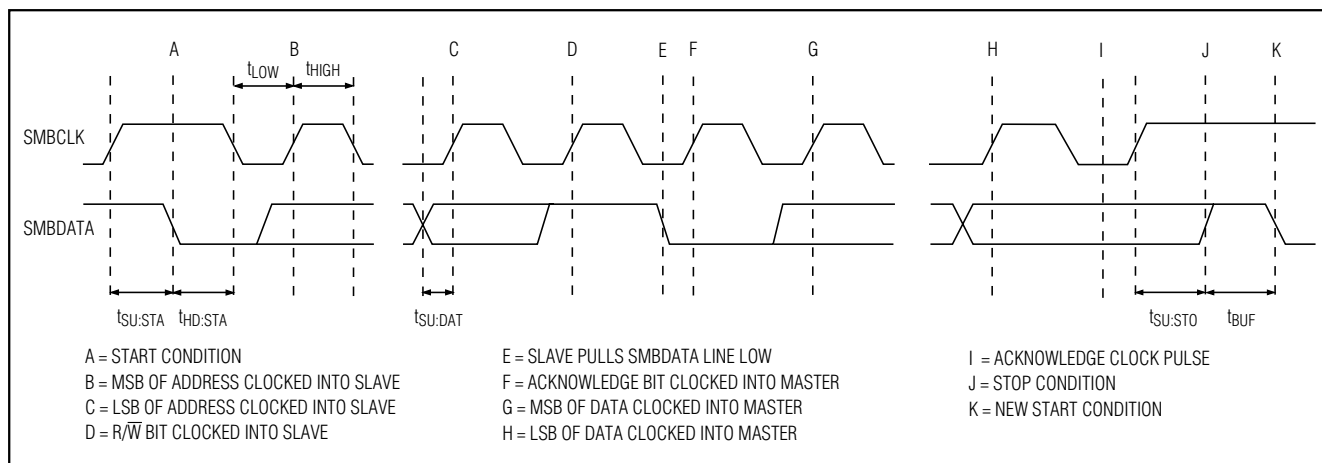

Figure 5. SMBus Read Timing Diagram
- 4) Connect guard traces to GND on either side of the DXP–DXN traces (Figure 5). With guard traces in place, routing near high-voltage traces is no longer an issue.
- 7) Use wide traces. Narrow traces are more inductive and tend to pick up radiated noise. The 10mil widths and spacings recommended in Figure 5 are not absolutely necessary (as they offer only a minor improvement in leakage and noise), but try to use them where practical.